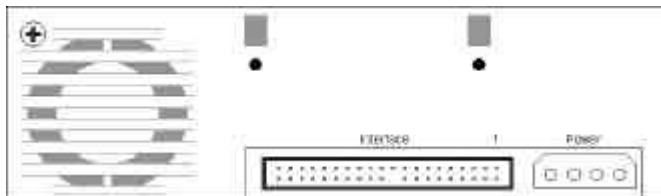

Figure 2. SuperSwap 1000 Housing Assembly Rearview
4. Connect your Promise RAID controller's drive cable to the IDE HDD connector on the back of the housing assembly (see Figure 2), making sure that the red edge of the cable corresponds to Pin 1 of the housing assembly's connector (opposite the fan, and near the power connector).
5. Connect the power cable to the power connector (see Figure 2) on the back of the housing assembly.